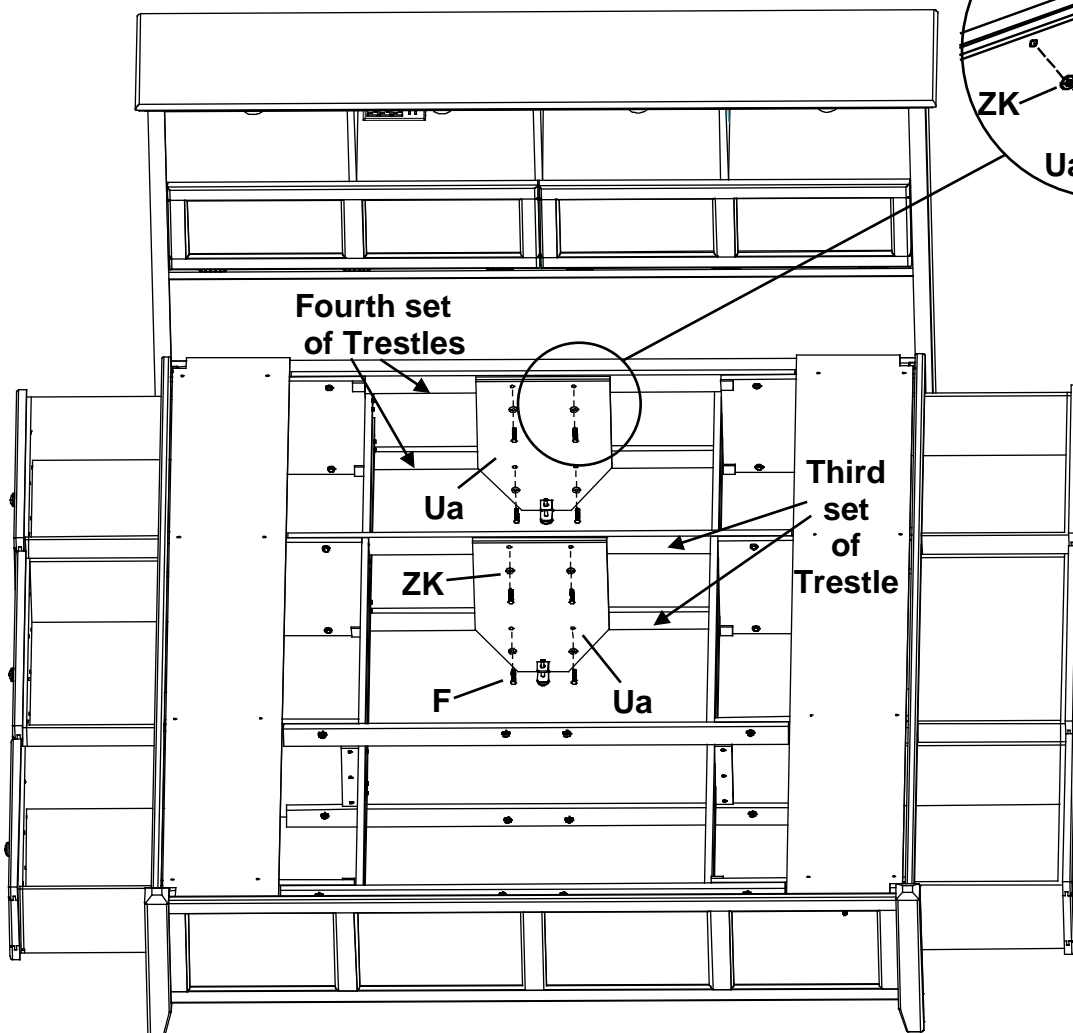

Fig. 8
Facing the Headboard, place two Assembled Feet (Ua) on the inside faces of the third and fourth upper and lower Trestles. Attach with Washers (ZK) and 1/4" x 1-3/4" Hex Bolts (F). See Figures 8 and 8a.